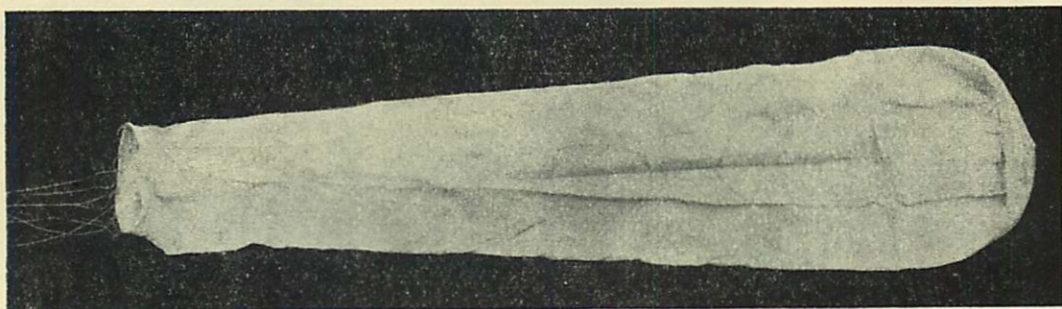

Fig. 3. 20-ft. Drogue Target
12. **Sleeve Targets.** There are several types of sleeve or drogue targets in use (Fig. 3). They all consist of tapering sleeves of strong reinforced fabric, open at the front and closed at the rear end. Sleeve targets are smaller and lighter than